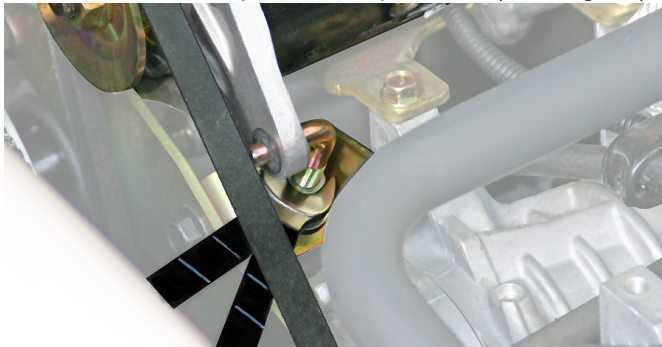

Fig. 11 Adjusting the Belt Tension
Move the lower nut (11) up or down the adjustment bolt until proper belt tension is achieved. Hold the lower nut (11) in place and tighten the upper jam nut (12) against it the lower nut to the specified torque value (Ref. Fig. 11).